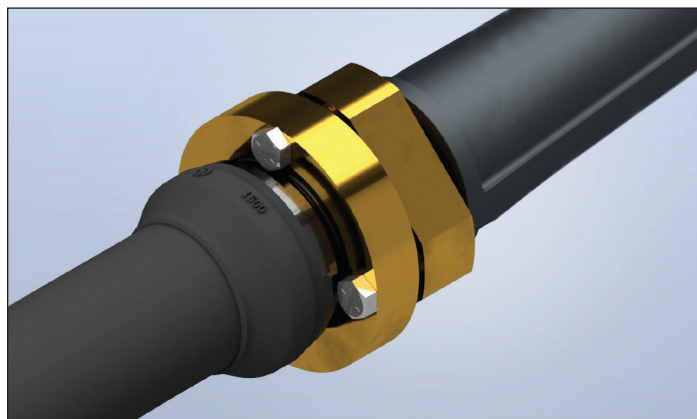

Figure: 1-9
10. In a quick motion, pull the Flip Sleeve Assembly forward. This will untuck the Flip Sleeve onto the outer jacket. Slide up and hand-tighten the Flip Sleeve Assembly into the Back Flange (Figure 1-9). With the Flip Sleeve Assembly installed, there will be no exposed stainless steel.